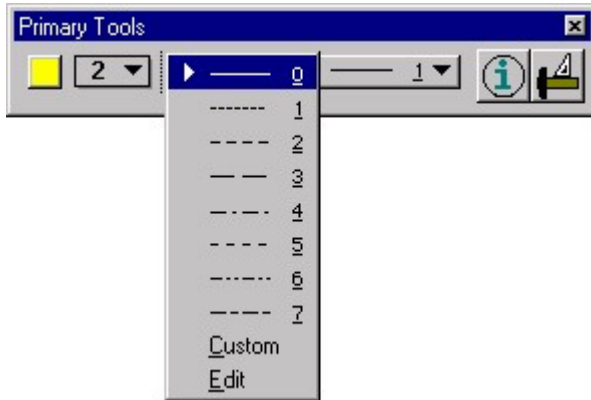

Figure 2 – Active Line Style Setting Dialog
- From the Primary tool bar Line Style option menu (Figure 2), choose the desired line style value